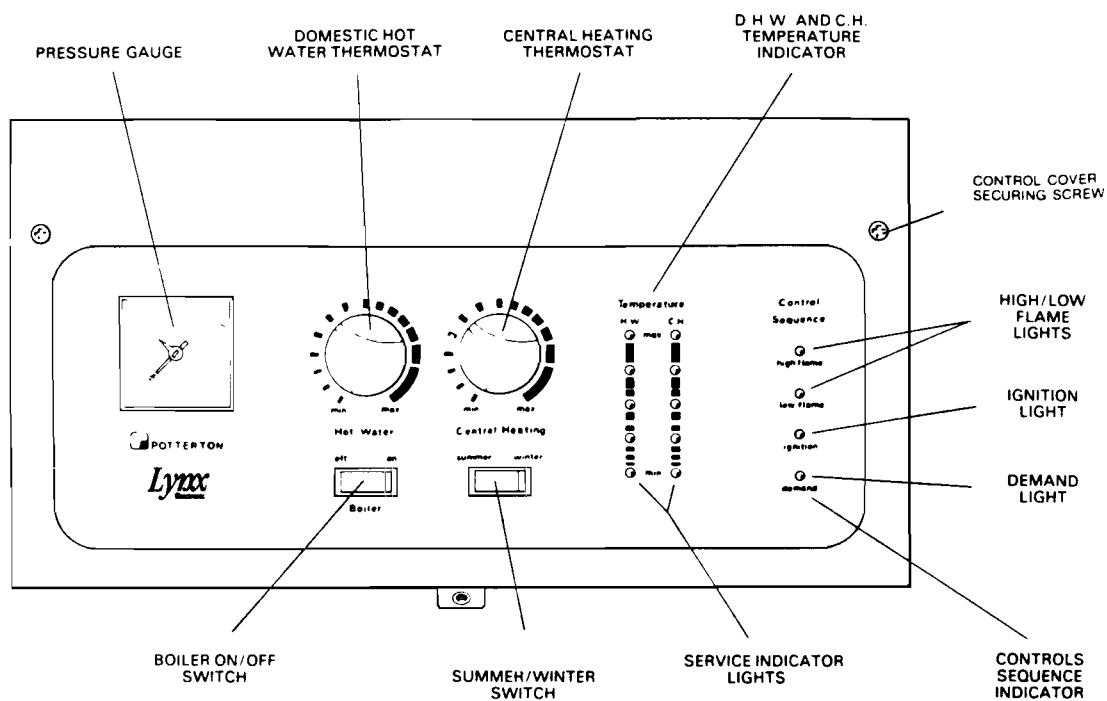

FIG. 28 CONTROL PANEL
- Undo the single retaining screw on the top of the control panel (see Fig. 28) lower the control panel it rests on its horizontal stop, remove control cover.
- (1) Remove the pressure gauge and tube and replace the screw in the pressure test nipple.
(5) THERMOSTAT CONTROLS
a) To Operate the Appliance: Central Heating (See Fig. 28)